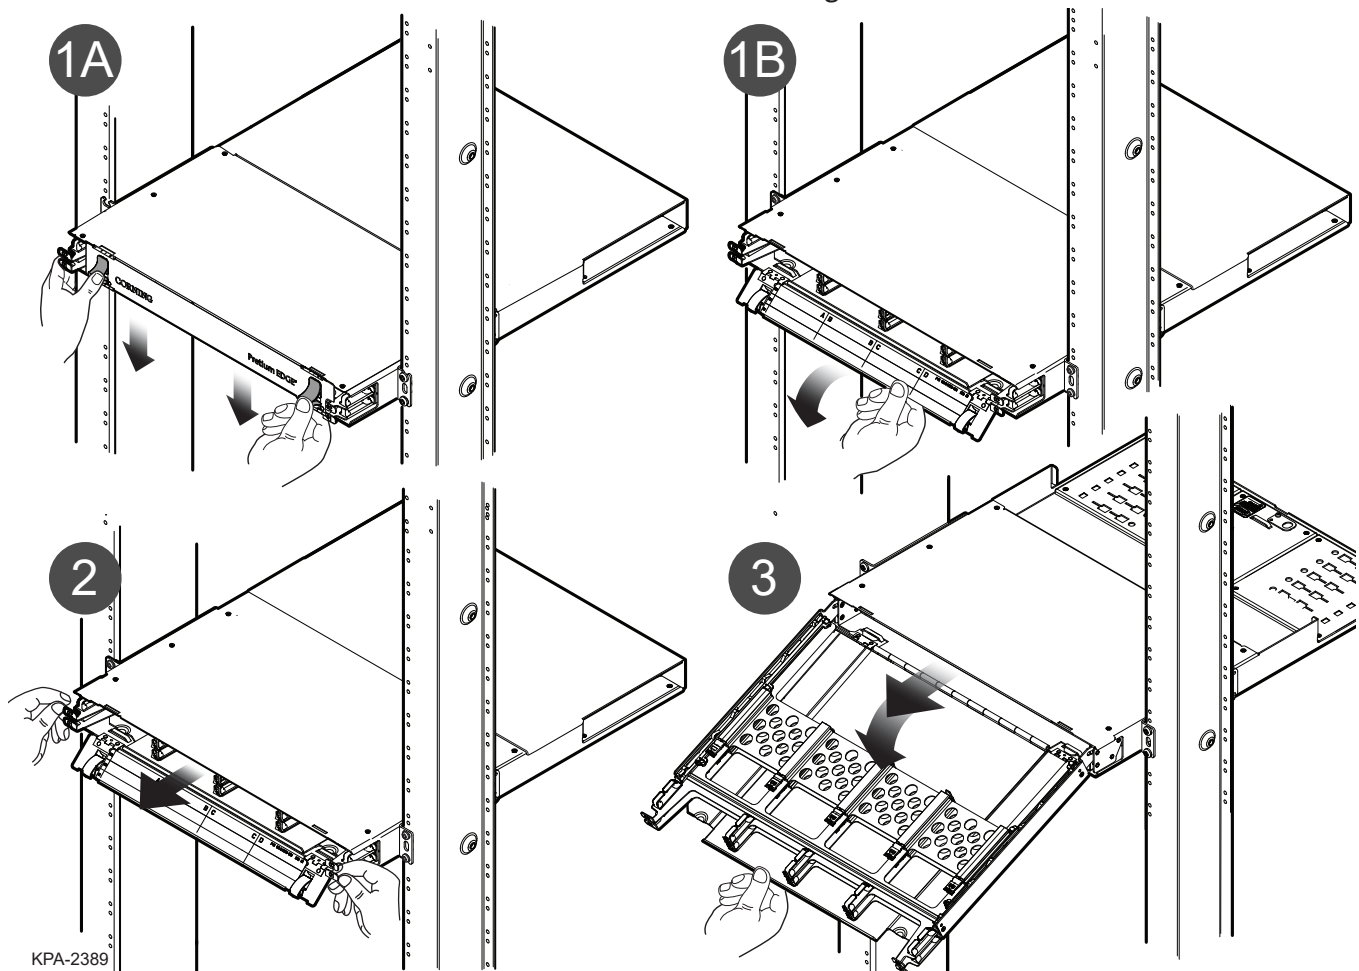

Figure 18 — Lower Tilt-down Drawer
Step 2: Using tabs on the side of the drawer, lift and pull out drawer horizontally until reaching hard stops (Figure 18).